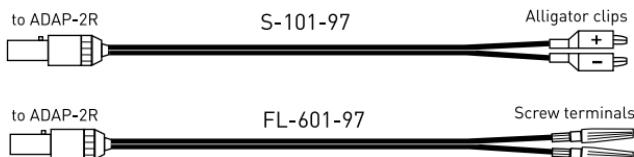

Figure 13: Single-use cable by Remington Medical Inc. (USA only)
- **Adapter cable ADAP-2R** is a reusable cable to connect the single-use cables according to Figure 13 (for USA only) to Reocor D (use the Redel adapter).